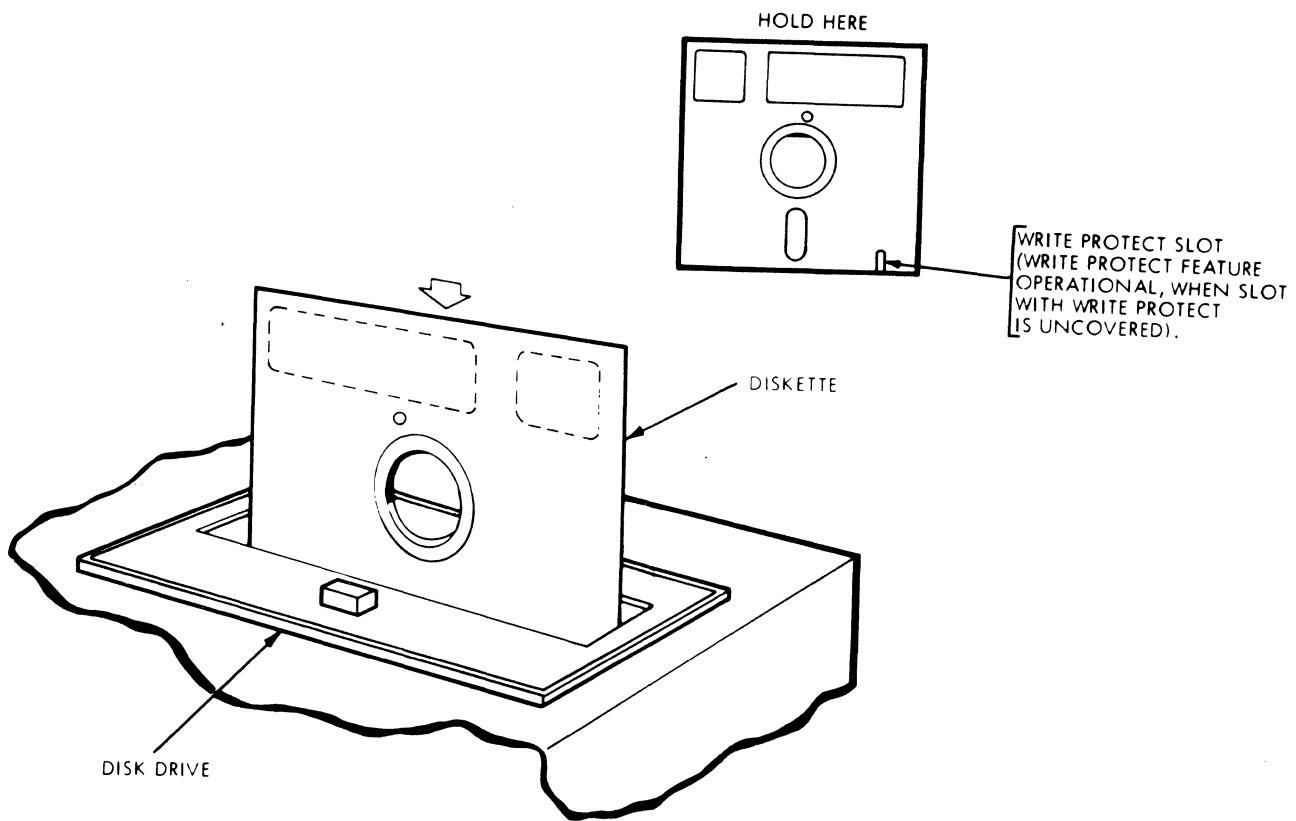

FIGURE 2-1. DISKETTE INSTALLATION
- c. Remove diskette from storage envelope as shown in Figure 2-1.
- d. Be sure the Write-Protect slot in the jacket is open, as shown in Figure 2-1, if the diskette is to be write-protected.
- f. Carefully slide diskette into FDD, as shown in Figure 2-1, until jacket is solidly against stops and sets the ejector mechanism.